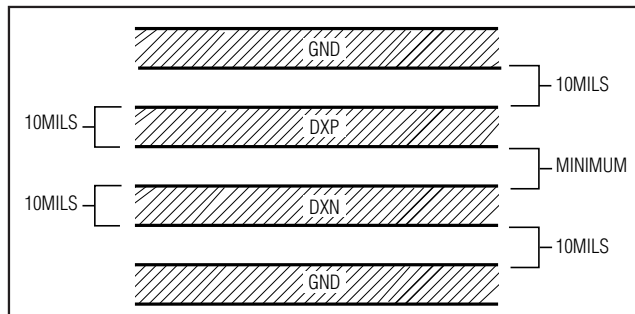

Figure 2. Recommended DXP/DXN PCB Traces
- 4) Connect guard traces to GND on either side of the DXP-DXN traces (Figure 2). With guard traces in place, routing near high-voltage traces is no longer an issue.
- 7) Use wide traces. Narrow traces are more inductive and tend to pick up radiated noise. The 10mil widths and spacings recommended in Figure 2 aren't absolutely necessary (as they offer only a